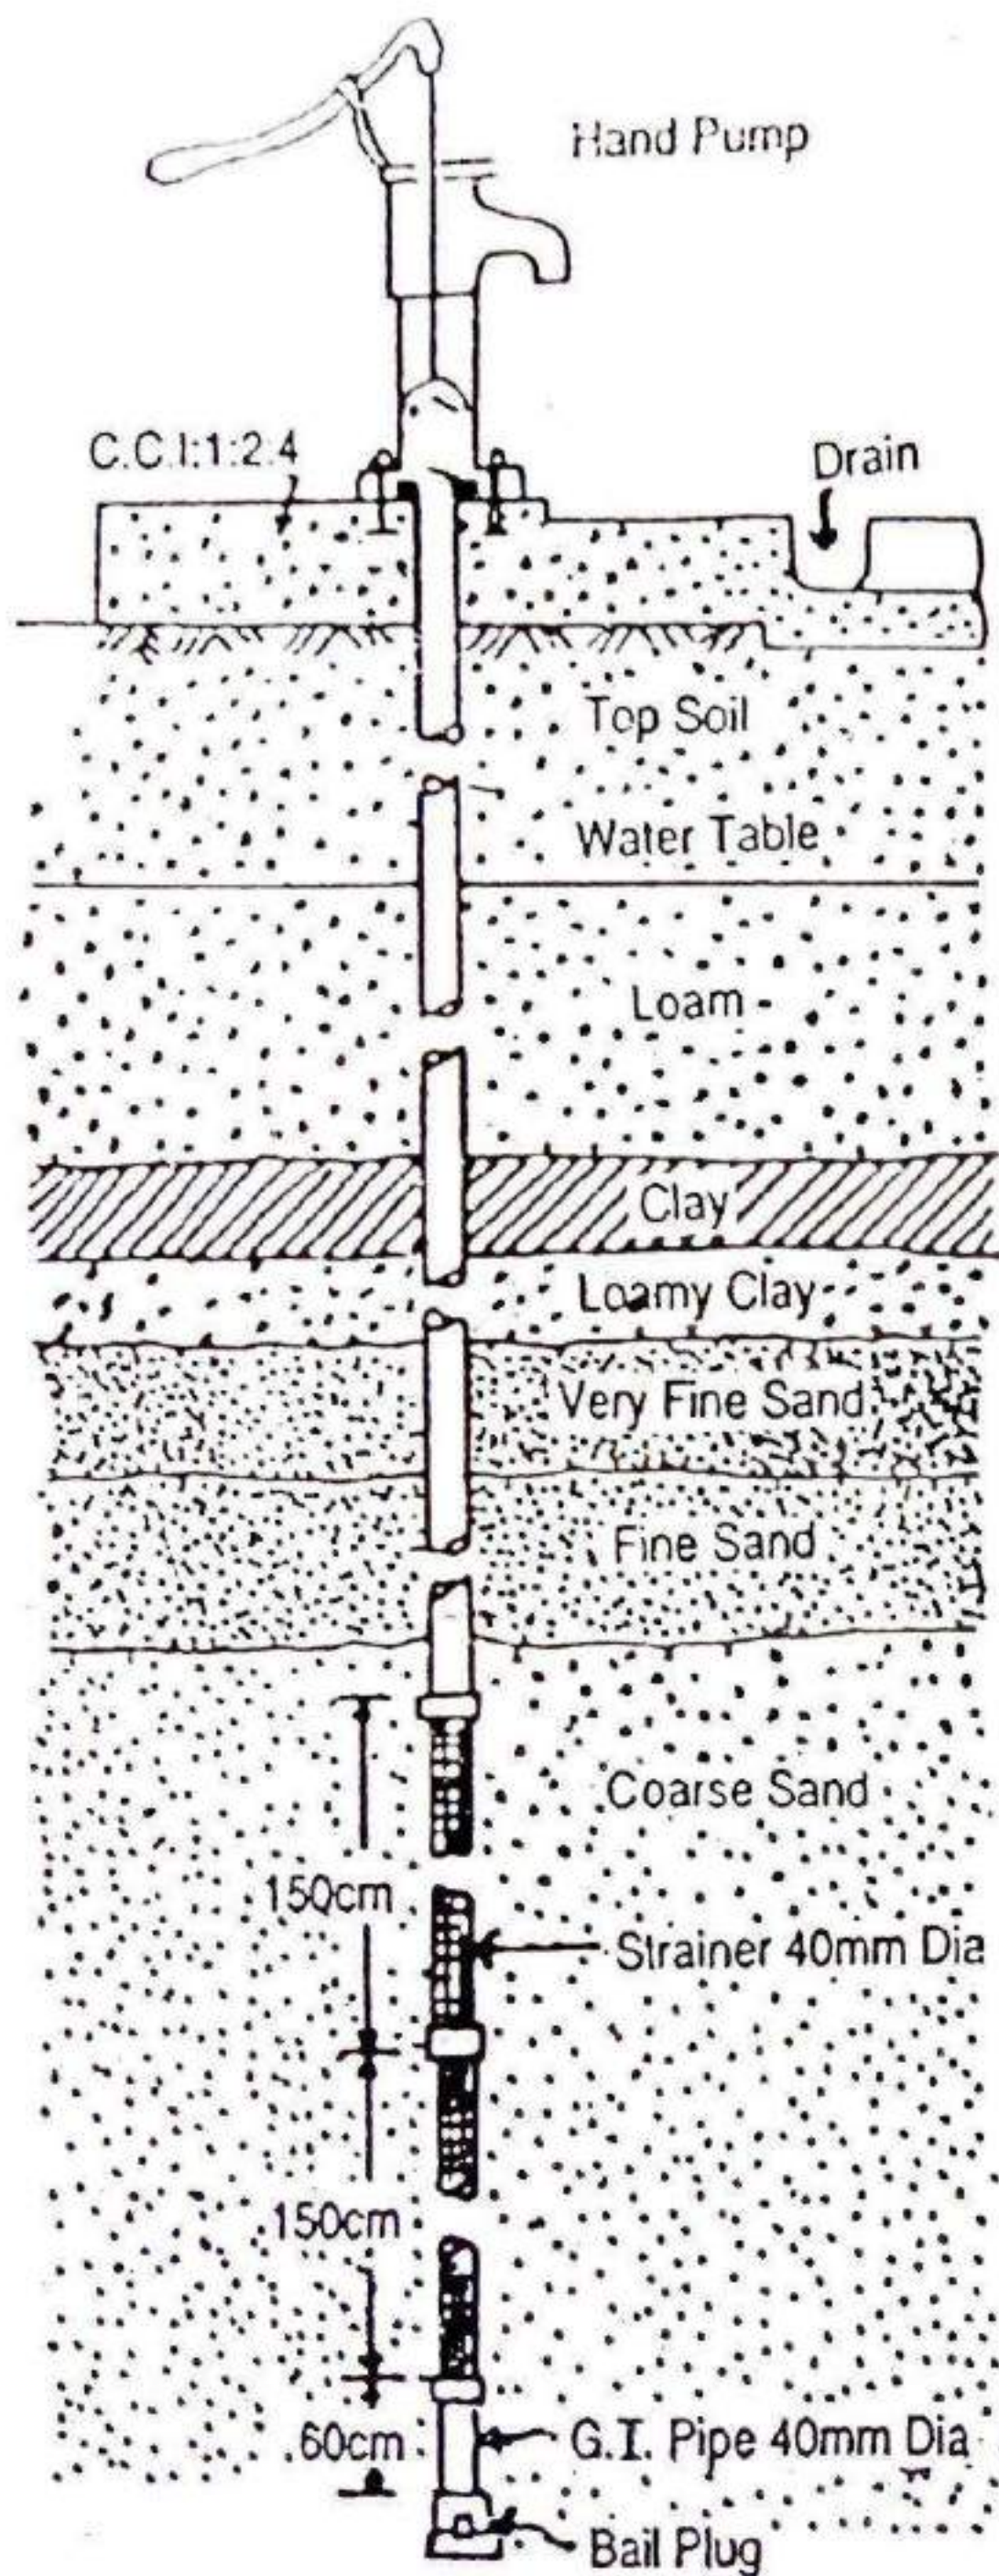

Fig. 6-18
**Example 9.**—Prepare an estimate of a 40 mm dia. tube well 40 metre deep from the given drawing (Fig. 6-18). The length of the strainer is 3 metre. Assume suitable rates.